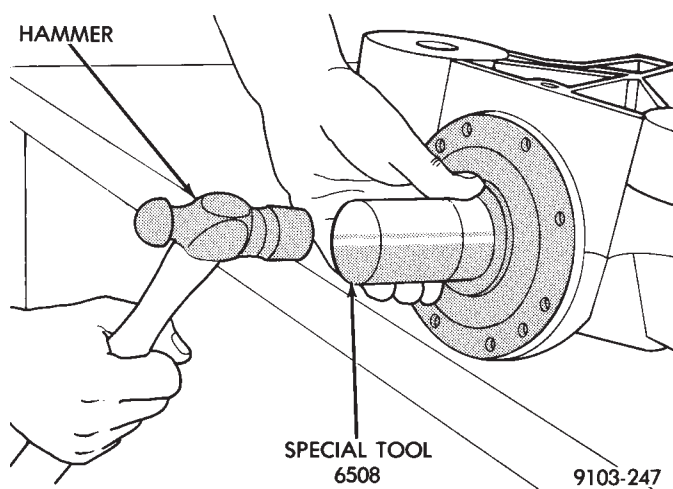

Fig. 13 Overrunning Clutch Seal Installation
(4) Apply a light coat of oil onto the overrunning clutch seal and install with Seal Installer 6508. Seal must be installed with the spring side away from the rear carrier case (Fig. 13).
(5) Clean pinion nut and pinion shaft threads with Mopar® Brake and Parts Cleaner, Loctite Cleaning Primer or equivalent.
(6) Apply Mopar® Lock and Seal Adhesive to both the pinion nut and pinion shaft threads.